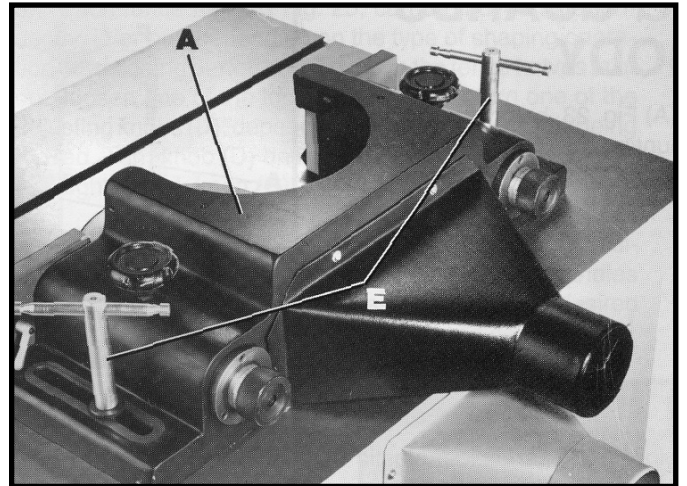

Fig. 20
4. Figure 20, illustrates fence body (A) fastened to the table with the two fence locking handles (E).